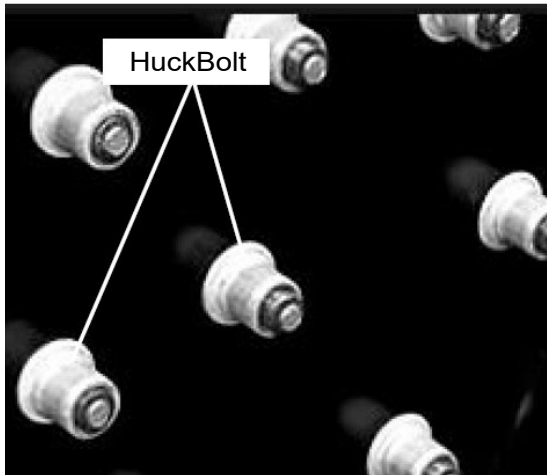

Figure 3 — HuckBolt Fasteners
- If the fasteners are HuckBolts (refer to Figure 3), proceed to step 5.